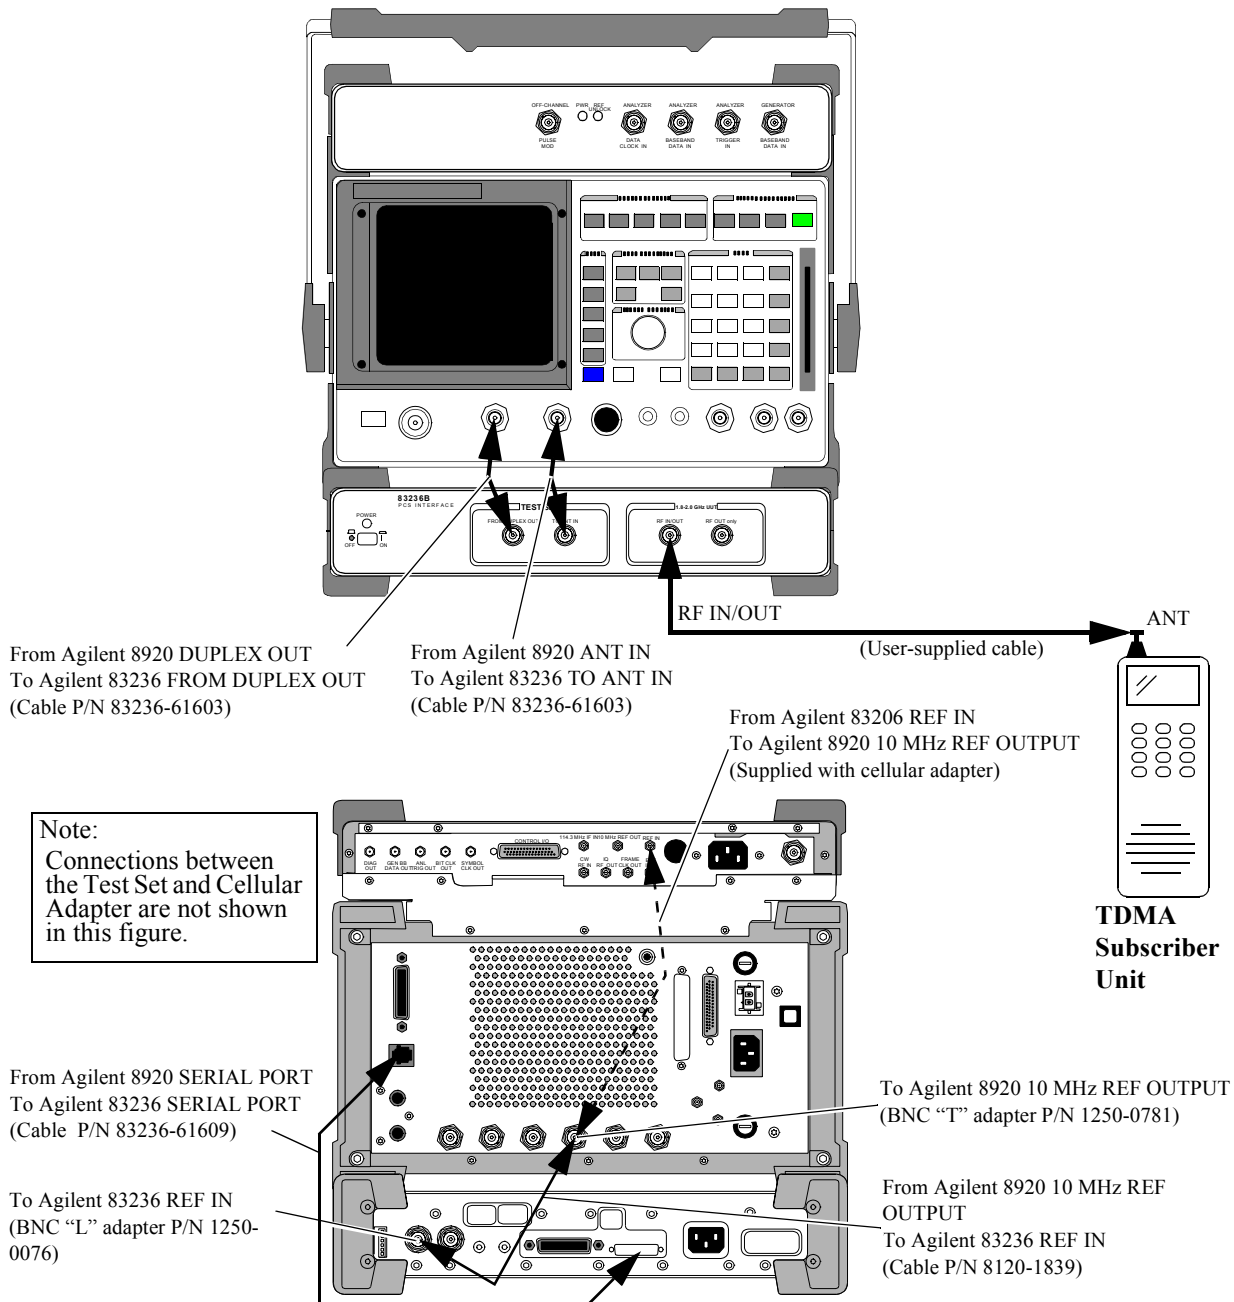

Figure 9 Connection diagrams for the Agilent 8920 Test Configuration (TDMA Subscriber Unit Tests; Serial Control)
- 2 Make the front and rear panel connections shown in figure 9.